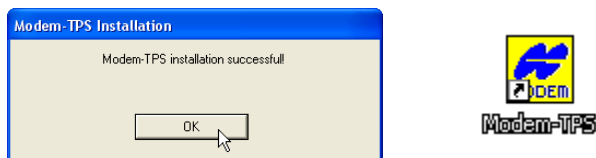

Figure 2-3. Installation Complete and Shortcut
3. Click **OK** to complete the installation (Figure 2-3).
4. Optionally, create a shortcut on the computer's desktop for quick access to Modem-TPS (Figure 2-3).